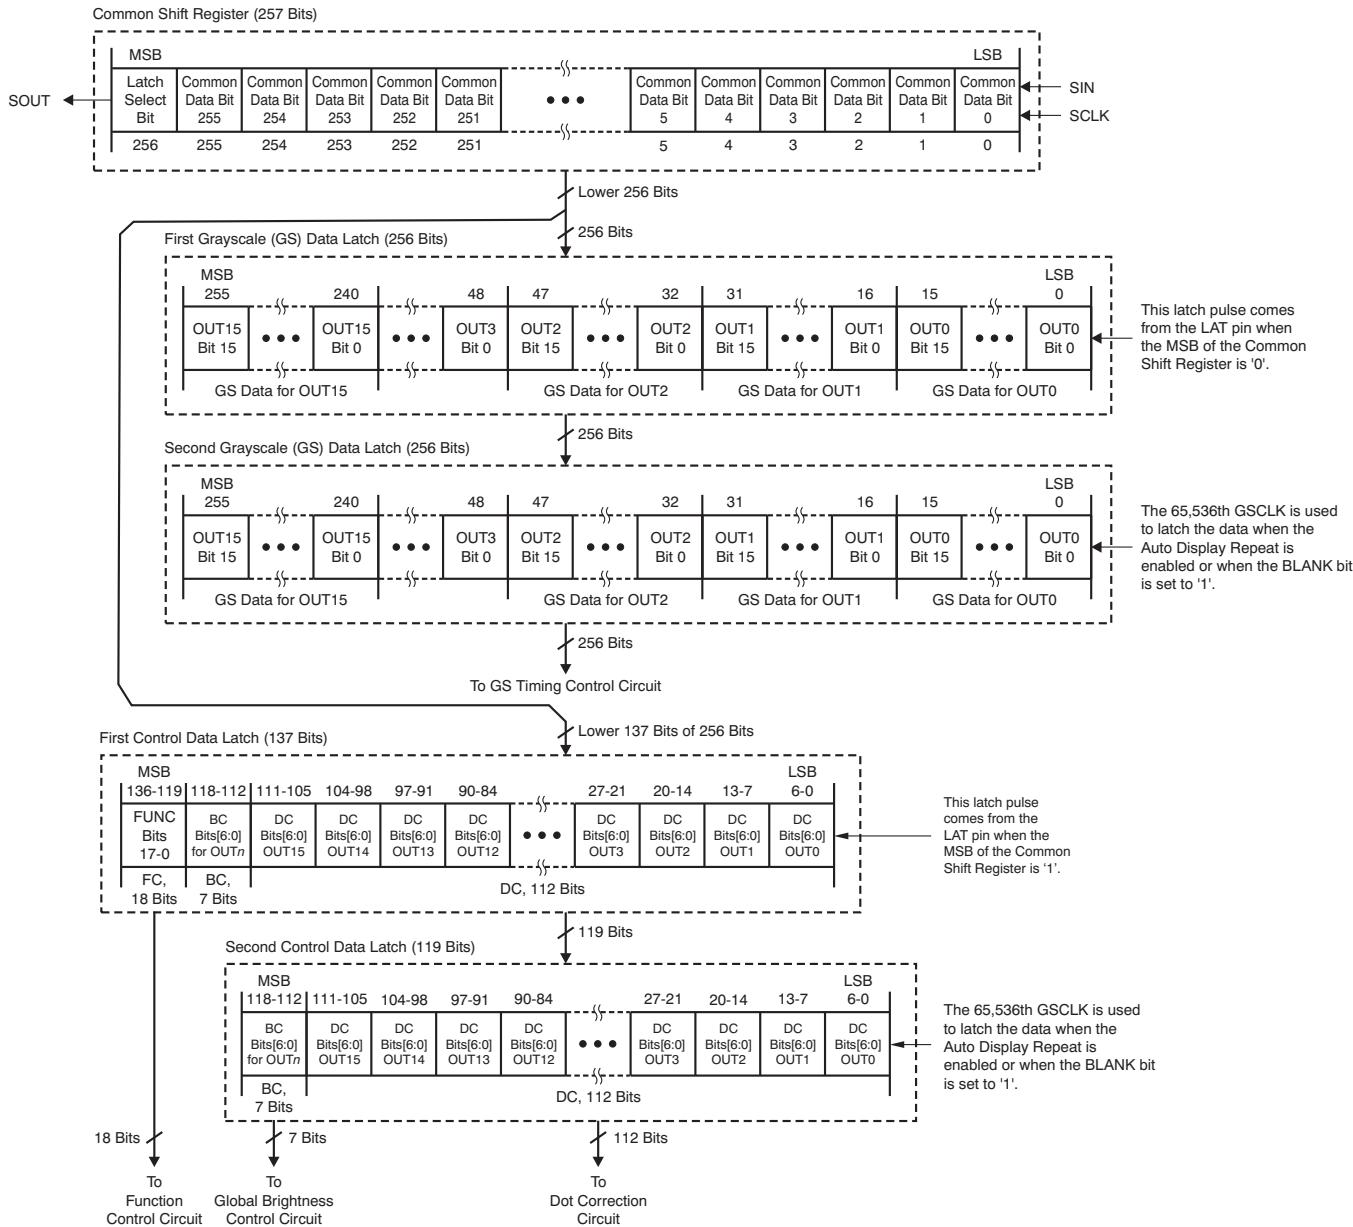

Figure 30. Common Shift Register and Control Data Latches Configuration
The TLC5948 has one common shift register and two pairs of data latches: the first and second grayscale (GS) data latches and the first and second control data latches. The common shift register is 257 bits long and the GS data latches are 256 bits long. The first control data latch is 137 bits long and the second latch is 119 bits long. When the MSB of the common shift register is '0', the least significant 256 bits from the common shift register are latched into the first GS data latch. When the MSB is '1', the data are latched into the first control data latch. Figure 30 shows the configuration of the common shift register and the latch configurations.